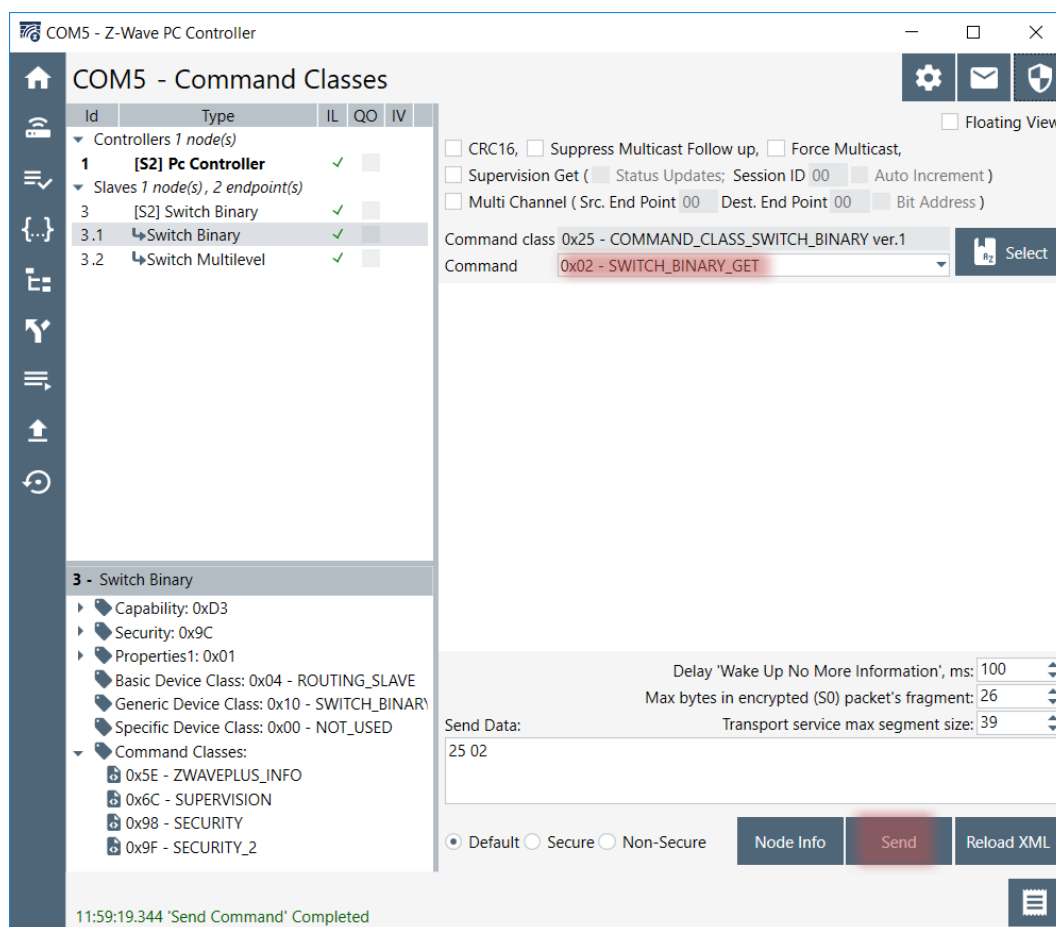

Figure 9: PC Controller, Command Classes View—Send Switch Get Command
7) Send a Get Command to verify the switch was set accordingly. Refer to Figure 9.